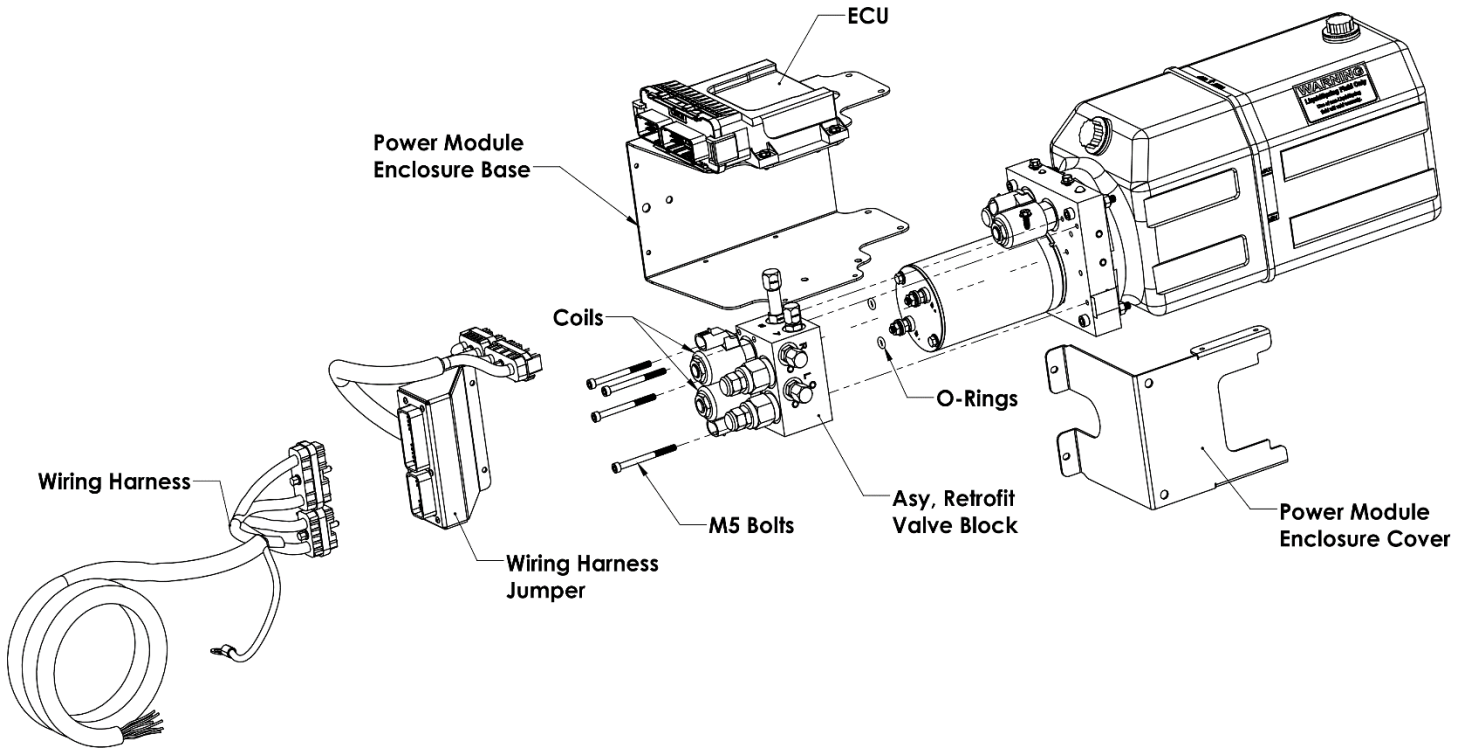

Figure 3: Power Module Retrofit Components
9. Locate the components included in the retrofit kit. See Figure 3.
10. Install the Retrofit Valve Block, using the retained (4) M5 socket head screws and the two (2) O-rings provided in the kit to the power module assembly. Torque to 55 in-lbs in a "X" formation. See Figure 3.
Note: Figure 3 may not show the covers and ECU installed in the same orientation as your application.